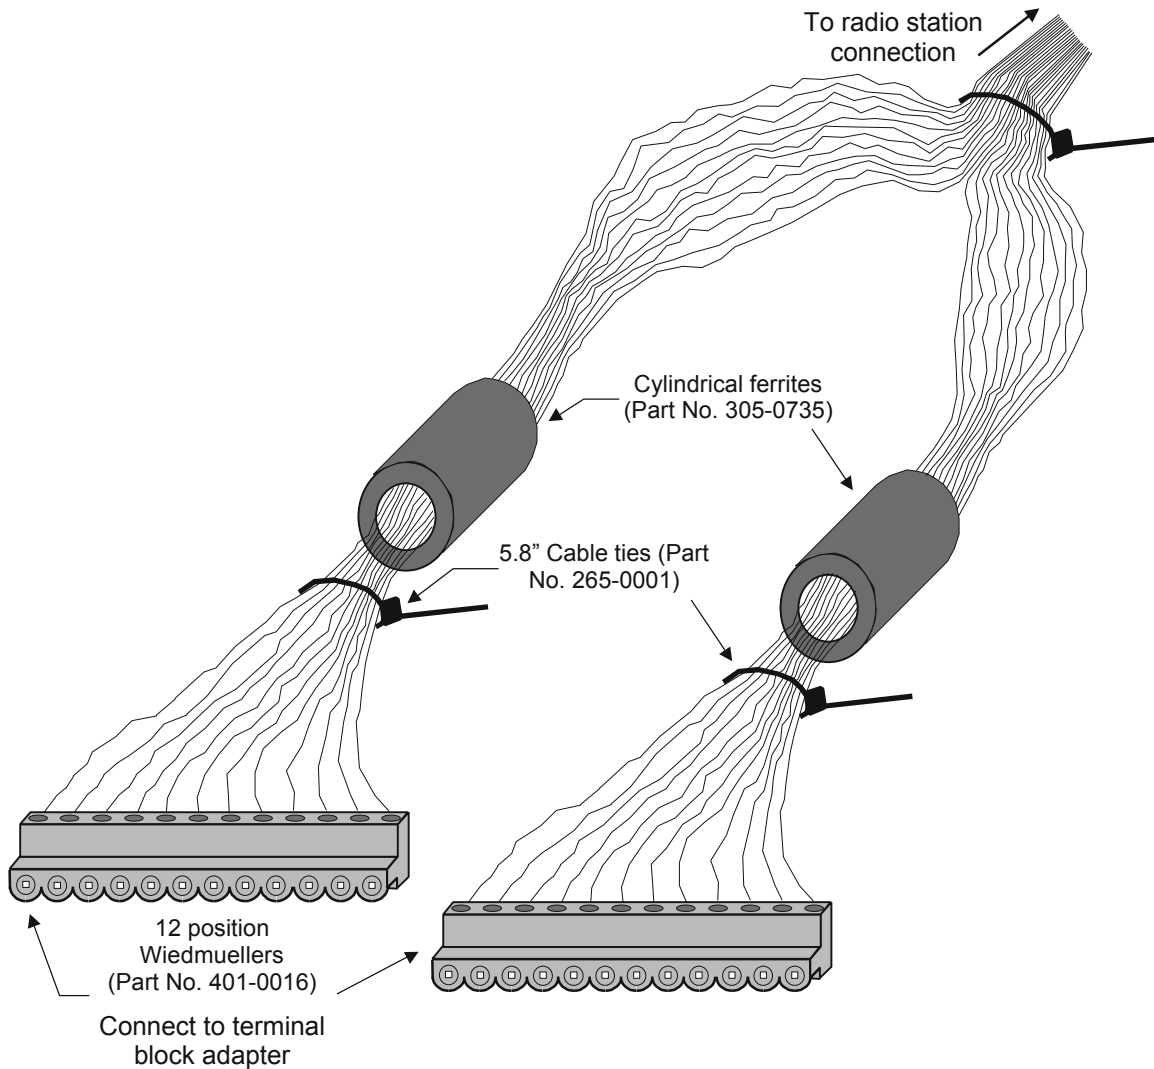

Figure 27. Radio Station Interface Cabling to Terminal Block Adapter
- 3. Install a cylindrical ferrite (Part No. 305-0735) over each half of the Model 640 end of the split cabling as shown in Figure 27. Two ferrites are supplied with the installation interface assembly option for suppressing RF noise interference.